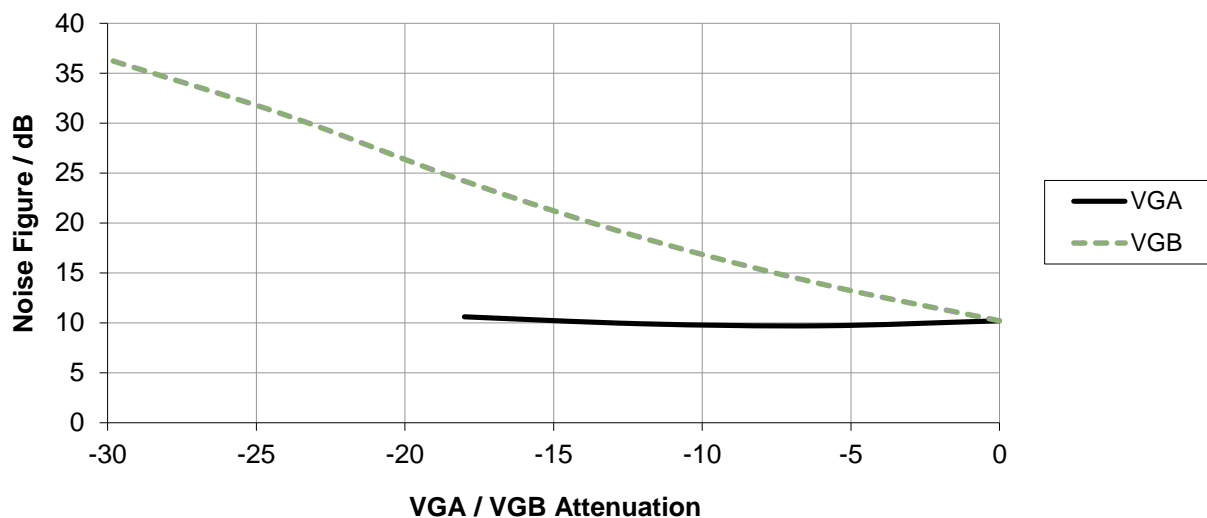

Figure 12 Variation in CMX970 Demodulator Noise Figure with VGA/VGB Control
The control of gain using VGA and VGB has an impact on the performance of the CMX970 demodulator. The variation in noise figure (NF) is straight forward, with the IF gain control (VGB) having a direct impact on NF but, due to the gain before the I/Q section, VGA has little impact on NF (see Figure 12). The variation of intermodulation (IMD) is more complex, as shown in Figure 13, where performance is characterised by 'Input Third Order Intercept Point' (IIP3). At maximum gain IIP3 is at a minimum and, as would be expected, the IIP3 increases as the IF gain is reduced (VGB). The improvement reaches a plateau beyond the -18dB gain setting as the input stages limit performance at this level. Reduction in gain with VGA (I/Q gain control) also has a positive effect on IIP3. This is perhaps less intuitive but indicates that the intermodulation performance of the CMX970 demodulator chain is dominated by the output stages rather than IF or mixer stages. Thus -6dB or even -12dB VGA gain control settings can be used to achieve improved IMD performance for negligible change in noise figure (Figure 12), as long as the reduction in gain can be tolerated.